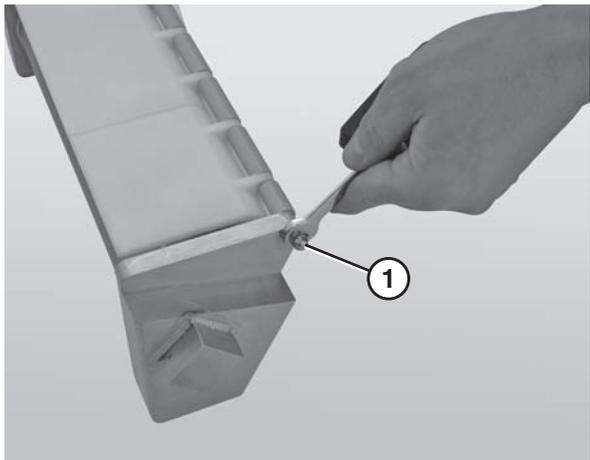

Figure 77
4. Use a 10 mm wrench to remove one of the acorn nuts (**Figure 77, item 1**) from the nose bar shaft.